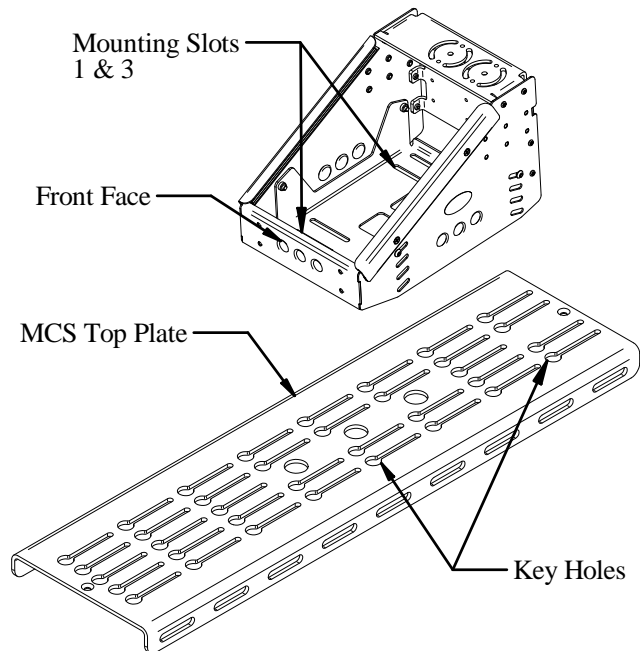

Figure 1: Align mounting slots with key holes.
1. When installing the 13-in Low Ergo console box onto a Gamber-Johnson MCS Top Plate, insert and loosely assemble four 1/4-20 carriage bolts, four 1/4" Dia. washers, four 1/4" lock washers, and four 1/4-20 hex nuts about the desired mounting slots in the bottom of the box (see **Figure 1**). Slots one and three from the front of the box will align with the key holes in the Top Plate. Slots two and four will also align with the key holes in the Top Plate. Orient the head of the carriage bolts below the box.
2. Insert the four heads of the carriage bolts into the desired corresponding key holes (see **Figure 1**) on the MCS-Top Plate until the bolt heads drop below the Top Plate. Place box in desired position and tighten hardware.
ASSEMBLING MCS FACEPLATES: (Refer to figure 1)
(1) 6-32 nut
2. For each faceplate, slide the faceplate vertical offset (item 1) on the stud in faceplate top bracket (item 2). Add flat washer (item 3) and hex nut (item 4). Remove the extra strips of dual lock fastener pressed onto each console box under holddown rails, cut to same length as each faceplate, remove protective film covering the adhesive strip and apply to top bracket as shown.
3. If the faceplates are being mounted in an older style MCS Console Box (those with threaded inserts on the top surface of the side panels/holddown screws passing through slots in existing face plates or blank panels), DO NOT attach the strip of dual lock fastener on each faceplate as described above. When installing faceplates into these MCS Console Boxes, mark any that cover the threaded inserts and drill a .312 diameter clearance hole as shown in Figure 1.